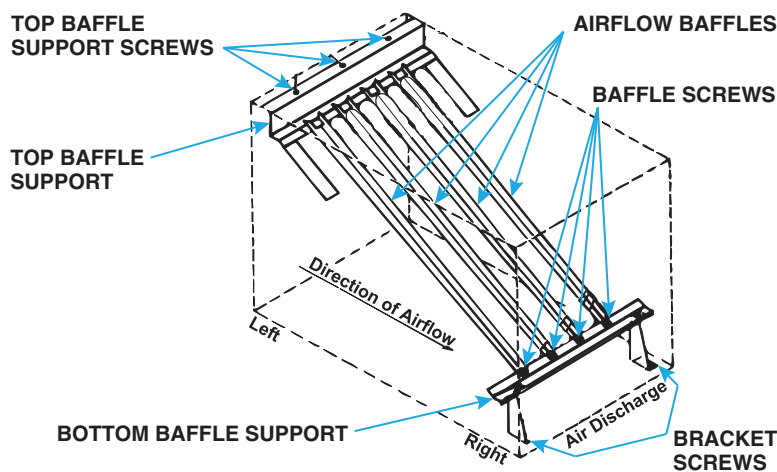

Figure 6. Airflow Baffles
1. Remove baffle screws (see **Figure 6**) and lift each airflow baffle slightly and slide forward. Remove all baffles from heat exchanger.
2. Remove top baffle support screws (see **Figure 6**) and remove top baffle support. Reposition and secure support on opposite end of heat exchanger using screws.
3. Remove bracket screws (see **Figure 6**) and remove bottom baffle support and bracket assembly. Reinstall bracket screws to plug holes in heat exchanger bottom. Reposition bottom baffle support and bracket assembly on opposite end of heat exchanger and secure using field-supplied sheet metal screws.